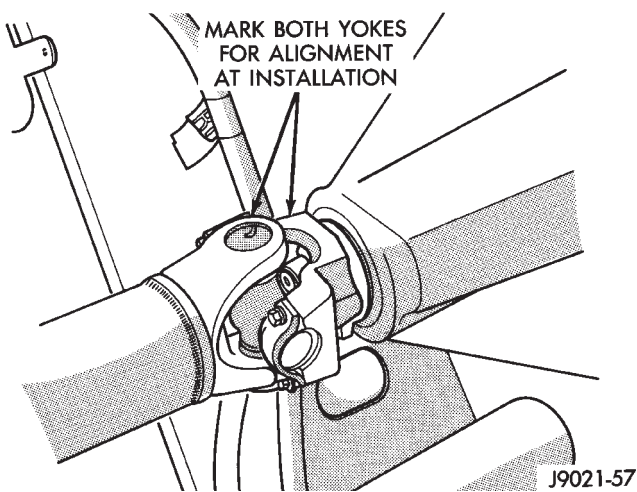

Fig. 7 Marking Propeller Shaft And Axle Yokes
- (8) Mark front and rear propeller shafts for installation alignment (Fig. 7). Then remove shafts.